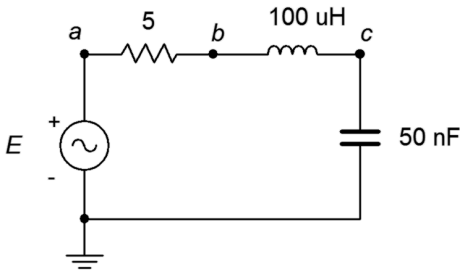

Figure 8.2
14. For the circuit shown in Figure 8.2, determine the resonant frequency, system Q and bandwidth. Assume $R_{\text{coil}} = 0\ \Omega$. If the source is $10\ \text{volts}$, determine the capacitor voltage at resonance.